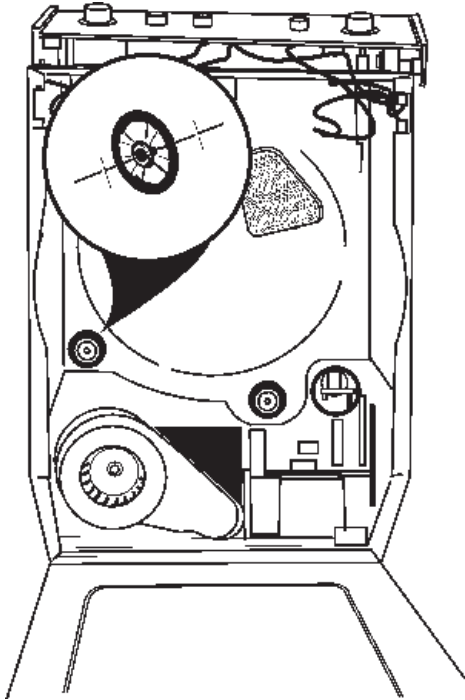

Figure 9
1. Remove triangular rings from roller shaft by using a screwdriver to pry the rings off the shaft. Remove rollers and the remaining triangular rings. See Figure 9.